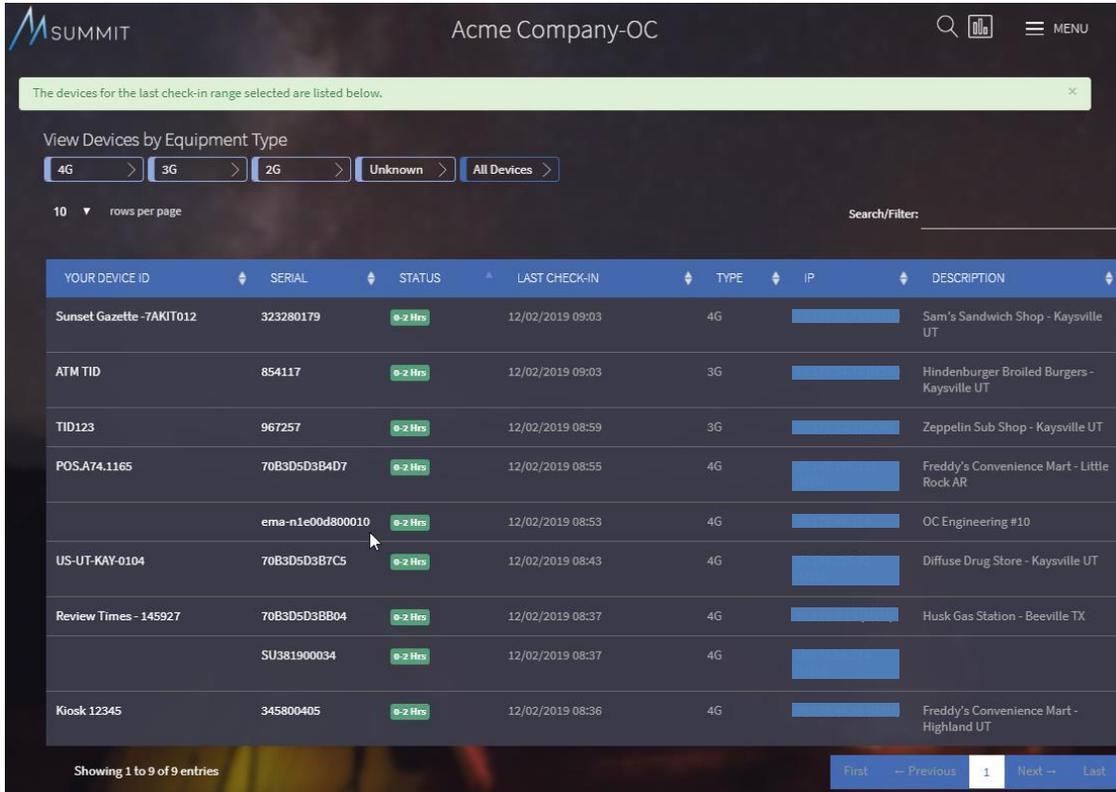

Figure 9
- Click the "CURRENTLY ONLINE" button. The view will switch and list all OptConnect cellular devices associated with this account that are currently online. Locate the ema in question by serial number. Click on the serial number to monitor ema as shown in *Figure 9*.